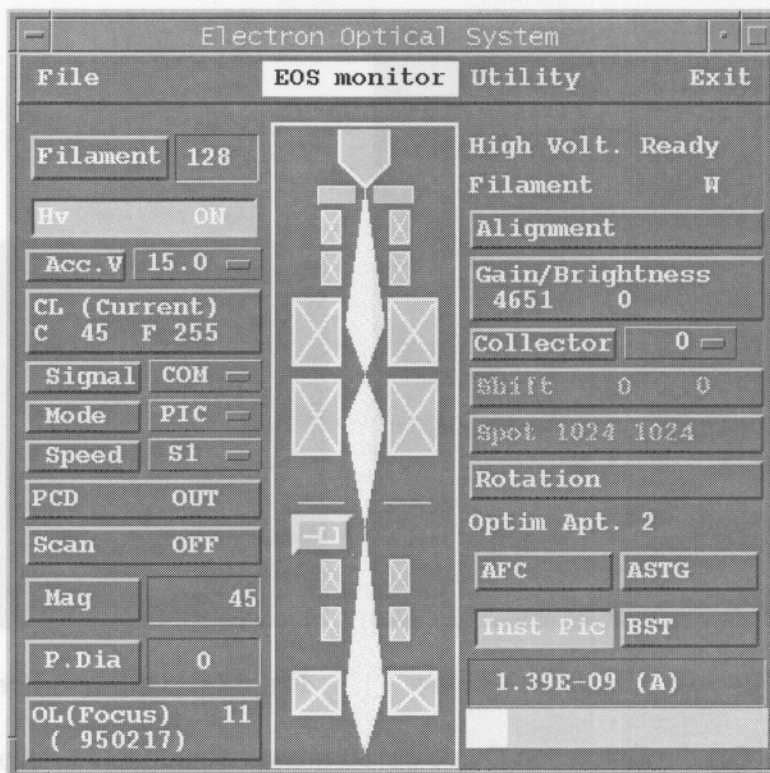

Fig. 5.22 Electron Optical System window: Example
• Other settings:	The default settings can be used; however, if you entered into this observation from another operation, set the parameters while referring to the example shown in Fig. 5.22.